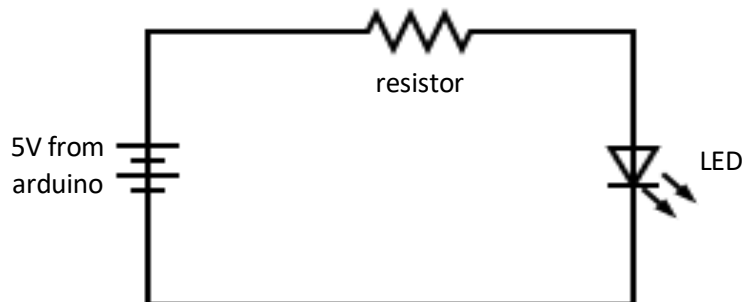

Figure 1.
Figure 1 depicts a circuit with a 20 milliamp (mA) LED in series with a resistor powered by a 5 V from Arduino. The LED chip has a rating of 20 mA and a forward voltage ( $V_f$ ) of around 3 volts (V). This means, the LED requires a minimum of 3 V to activate at sufficient brightness, drawing a current ( $I$ ) of 20 mA. The resistor exists to limit the current and ensure that you do not burn out the LED. Once you choose a known voltage, ( $V_s$  – supplied voltage), the resistor value can be calculated using the formula:
Set up the circuit as shown in Figure 1 to power the circuit with 5V from Arduino and introduce the 100-ohm resistor.